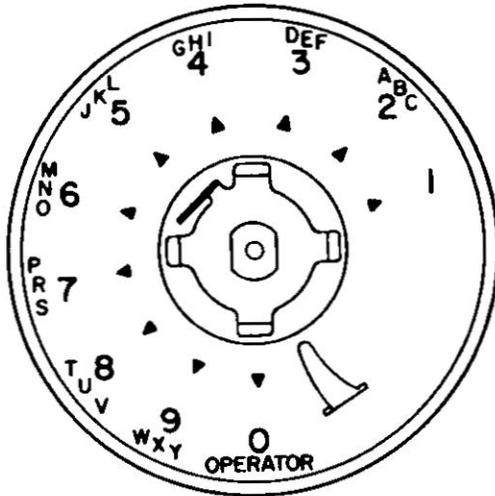

Figure 5. Proper Position of Clamping Disc When Installing A.E. Co. D-780896-A.
- (1) Position the center hole of the disc over the hub of the dial shaft so the latching tab lies in the upper left quadrant adjacent to the 5/JKL and 6/MNO designations on the number plate (see Figure 5).